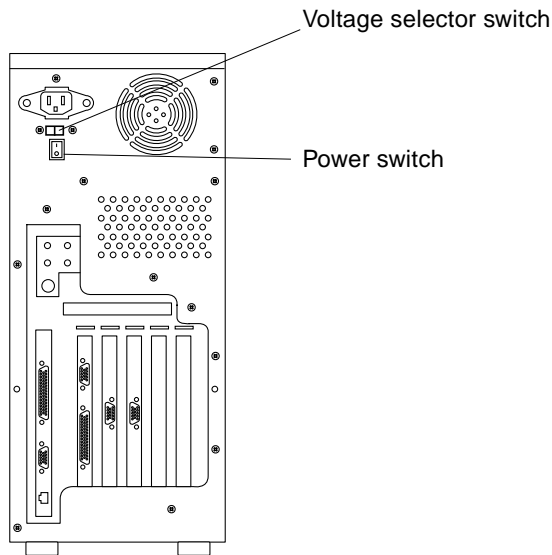

FIGURE 5-5 System Power Switch
3. Set the system power switch to the off position (FIGURE 5-5).